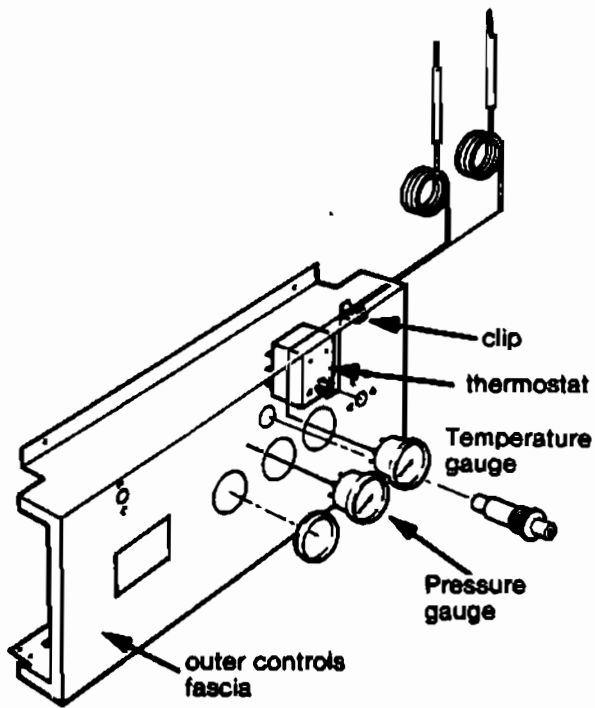

Fig. 48
8.20.2 Pressure gauge (fig 48)
8.20.3 Temperature gauge (fig 48)